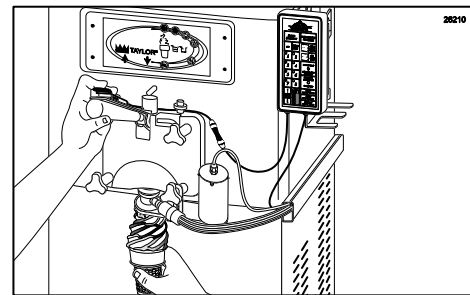

Figure 180
4. Select the multiple flavors by touching the keys (1-8) and draw a serving from the freezer according to instructions. (See Figure 180.)